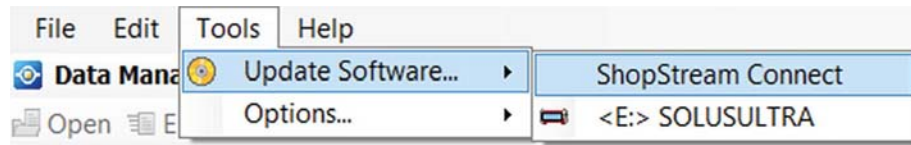

Figure 8-1
1. Select **Tools > Update Software > ShopStream Connect** from the Menu bar (Figure 8-1).